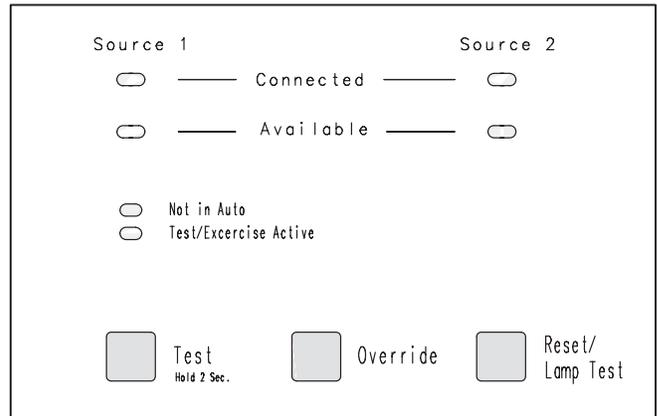

FIGURE 3-1. SWITCH PANEL
- **Front Panel Indicator:** The Source 1 or Source 2 Connected indicator is lit (Figure 3-1).
2. To transfer to Source 2, first, start the genset by pressing and holding the *Test* button on the front switch panel for 2 seconds (Figure 3-1). The Test/Exercise LED is on.